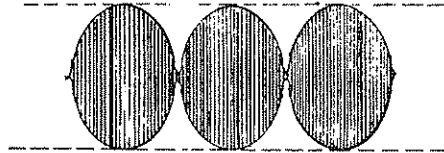

Figure VI-2
- (d) Adjust R-511 until adjacent peaks at the top and bottom of the wave-form are of equal amplitude (See Figure VI-2).